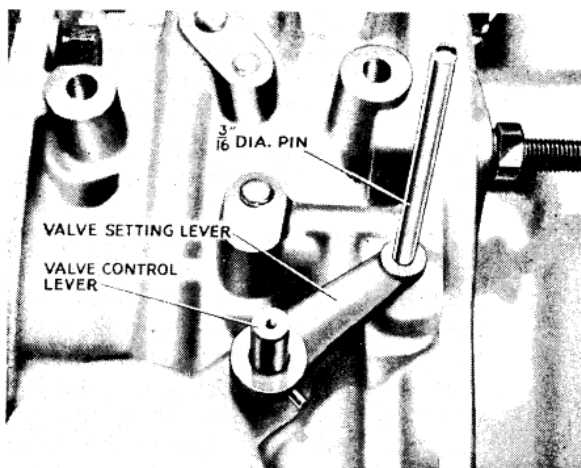

Fig. 36 Method of setting Valve Operating Levers.
9. On the right of the overdrive unit and pinned to the valve-operating shaft, is a valve setting lever with a 3/16" diameter hole. In the casting adjacent to this lever is another 3/16" diameter hole. The valve-setting lever should be rotated until the two 3/16" diameter holes coincide and then a 3/16" pin inserted through the lever into the casting, thus locking the operating shaft (Fig. 36).
On the O/S of the overdrive unit and pinned to the valve operating shaft, is a valve setting lever with a 3/16" diameter hole. In the casting adjacent to this lever is another 3/16" diameter hole. Actuate the solenoid with a 12 volt battery and while the plunger is drawn into the solenoid, and if the valve adjustment is correct, it should be possible to insert a 3/16" diameter pin through the valve setting lever and into the casting (see Fig. 36).